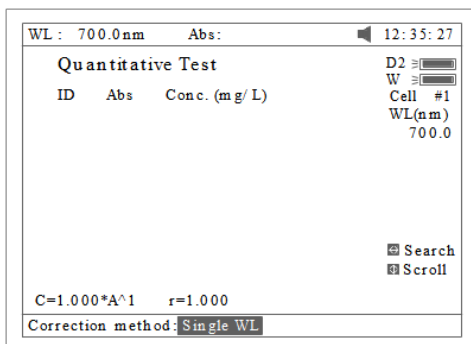

Fig 28
2. Press **[SETλ]** to select correction methods and enter the wavelength. There are three correction methods (single, Isoabsorbance and 3 point, Fig 28)